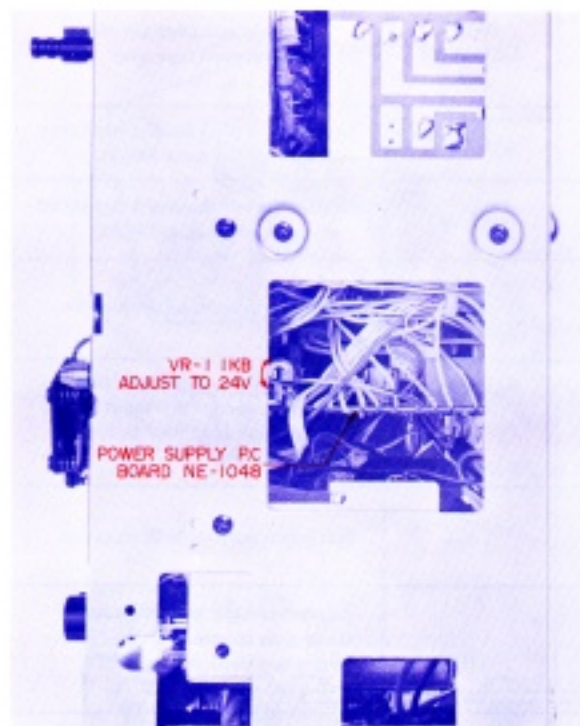

Fig. 13
1. DC POWER SUPPLY VOLTAGE ADJUSTMENT (Refer to Fig. 13)